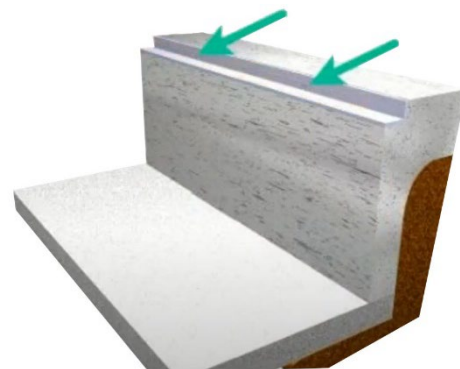

Figure 6
Step 5: After removing form, clip or grind finishing nails flush to surface of fiberglass rails. Seal holes with an epoxy sealing kit. *Figure 6*